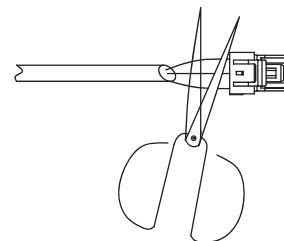

Fig. 25 —Shearing Outdoor Connector
1. Cut the connector on the outdoor unit side. See Fig. 25.